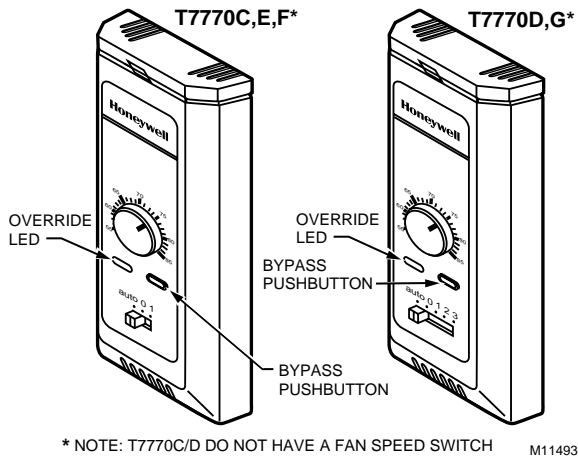

Fig. 2. LED and bypass pushbutton locations.
**When Used With Excel 10 Controllers:** The controller provides timed occupied and unoccupied temperature set-points for the Wall Module, see Fig. 2. The bypass pushbutton is used to change the controller into the modes shown in Table 3 and Fig. 3. The override LED displays the override status of the controller.